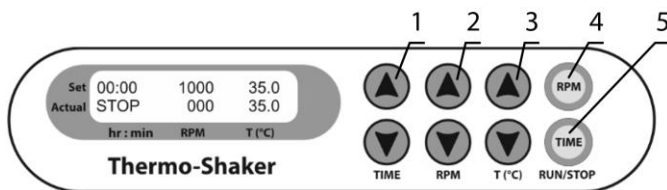

Figure 1. Control panel
- 5.3.1. **Setting time (TIME).** Using the ▲ and ▼ **TIME** keys (fig. 1/1) set the required working time interval in hours and minutes (increment 1 min).
- 5.3.2. **Setting speed (RPM).** Using the ▲ and ▼ **RPM** keys (fig. 1/2) set the required speed (increment 10 rpm).
- 5.3.3. **Setting temperature (T, °C).** Using the ▲ and ▼ **T, °C** keys (fig. 1/3) set the necessary temperature (increment 0.1°C).
5.4.2. Press the **RPM RUN/STOP** key (fig. 1/4). The platform will start rotating and the timer indicator will start counting the time interval (with 1 min precision).
5.7. If required, there is possibility to restart the timer when it is running. Press the **TIME RUN/STOP** key once (fig. 1/5) to stop the timer. Press the **TIME RUN/STOP** key again to restart the timer.
At the end of the set time period the platform movement is stopped automatically, but the heating can be stopped only manually by reducing the temperature using the **▼ T, °C** key (fig. 1/3 - lower key) till the OFF sign appears in the upper line (Set) of the display